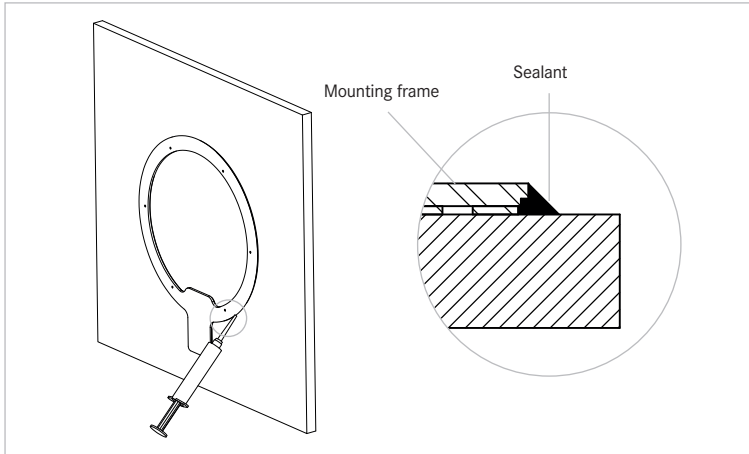

Figure 5: Sealing the mounting frame with sealant
To protect the adhesive seal from the effects of cooling lubricant, seal the gap between the mounting frame and the machine safety window on the outside with the enclosed sealant (Figure 5). This protects the adhesive seal from contact with occurring cooling lubricants.
- Draw a 45° joint between the mounting frame and the safety window (Figure 5) up to the level of the contact surface of the base unit.